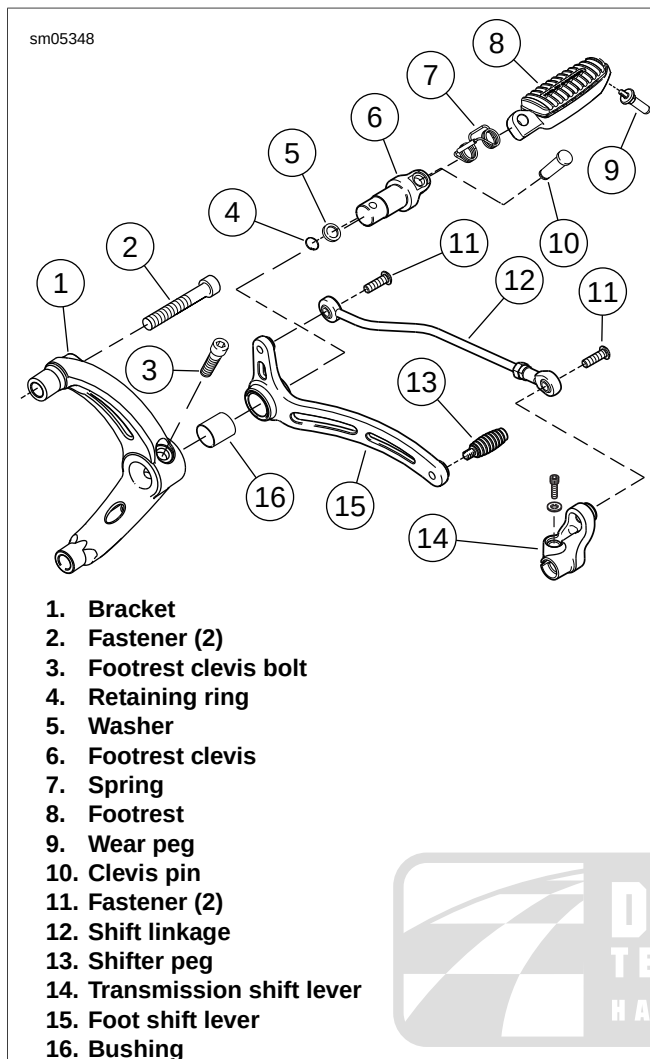

Figure 2-261. Rider Foot Control, Left Side: XR Models
1. See Figure 2-261. Remove fasteners (11) and remove linkage (12).
2. If necessary, remove wear peg (9).
3. Remove retaining ring (4) and washer (5). Discard retaining ring.
4. Remove clevis pin (10), spring (7), and footrest (8).
5. Remove bolt (3), footrest clevis (6), and foot shift lever (15).
6. Remove shifter peg (13).
7. If necessary, remove fasteners (2) and bracket (1).
1. See Figure 2-261. If removed, install bracket (1). Tighten fasteners (2) to 45-50 ft-lbs (61.0-67.8 Nm).
2. Install foot shift lever on footrest clevis and install footrest clevis. Tighten bolt (3) to 20-24 ft-lbs (27.1-32.5 Nm).
3. Install footrest (8) and spring (7) on clevis and secure with clevis pin (10). Install washer (5) and **new** retaining ring (4).
4. Install shifter peg (13) and tighten to 96-144 **in-lbs** (10.9-16.3 Nm).
6. Connect linkage (12) between foot shift lever (15) and transmission shift lever (14) using fasteners (11). Tighten to 120-180 **in-lbs** (13.6-20.3 Nm).